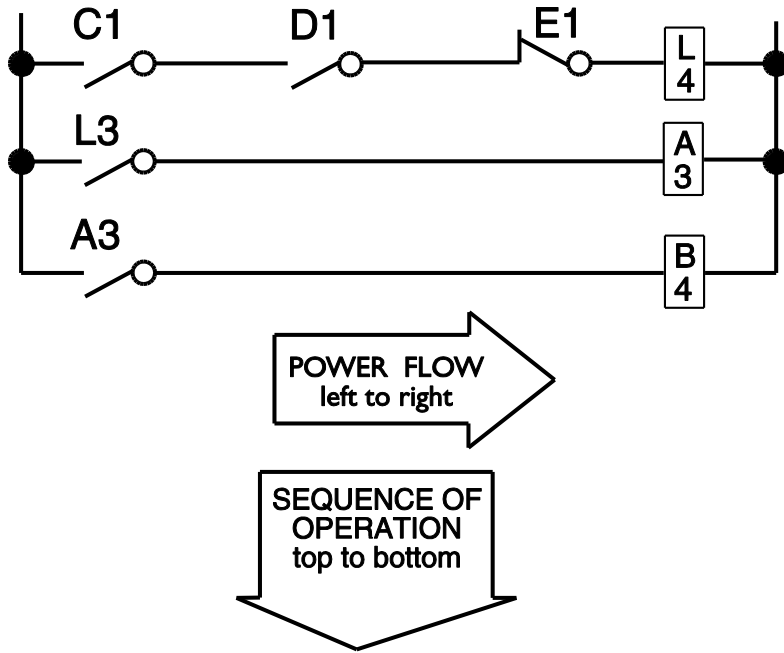

Fig. PF-4-1-29– Horizontal Circuit Arrangement
- power flow left to right and operating sequence top to bottom (**Fig. PF-4-1-29**) OR